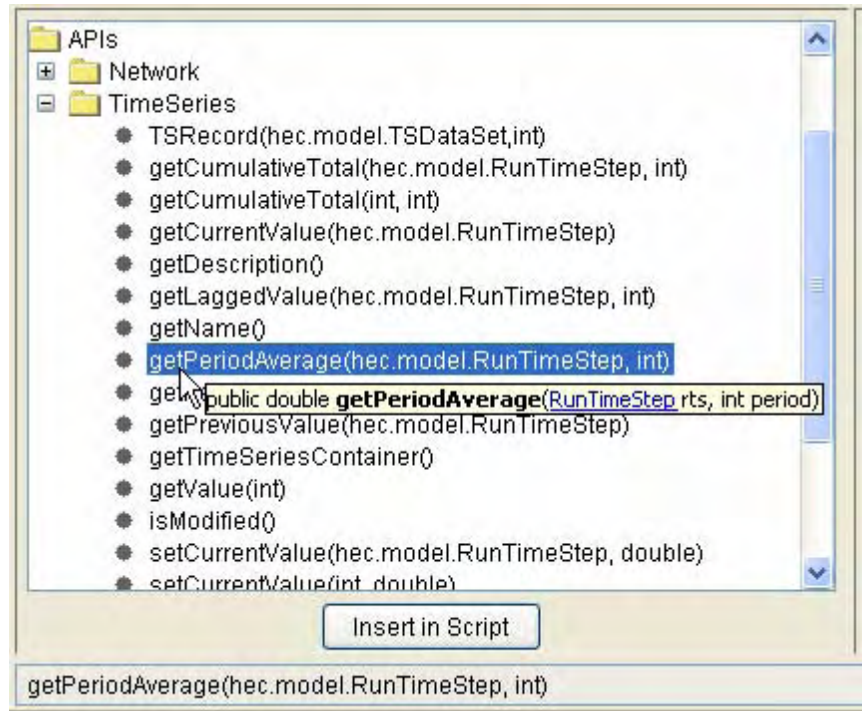

Figure 11.60 Scripted Rule Editor – API Pane Showing Jython Data Types and Object Classes (with Tooltips)
- Arguments given as Jython data types or object classes are placeholders for variables that the user must supply in the script (Figure 11.60). The text inserted from items under the API's folder usually requires that you replace the placeholders in the argument list with appropriate variables/objects that you created within your script.
- Tooltips provide additional information about methods, such as return types and argument names (as shown in Figure 11.60).